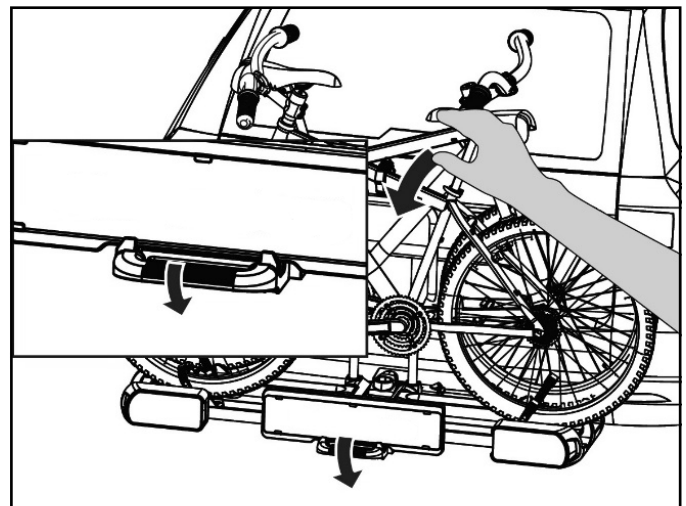

Figure 30: Folding back the bicycle carrier
- Hold the carrier firmly onto the bicycle when folding it down. Release the lock by foot, and then tilt the carrier downwards by hand (Figure 30).